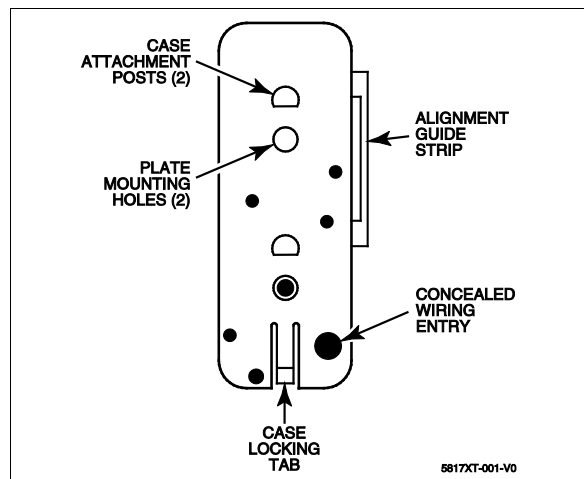

Figure 1: Mounting Plate
- Disengage the mounting plate from the transmitter's rear case.** Insert a small flat-blade screwdriver into the locking tab release window and press it against the locking tab, while sliding the mounting plate until free. See Figures 1 and 2.